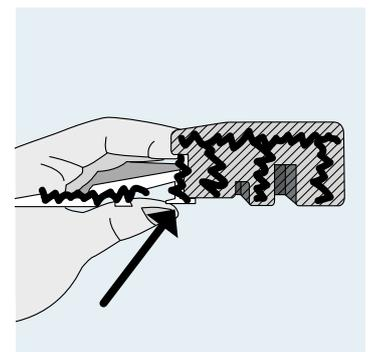

Figure 2: It's important to apply plenty of sealant in the groove
- 14.** Apply the narrow joint sealant by laying a continuous bead along the entire end profile – on both the timber part and the alu part (figure 2).